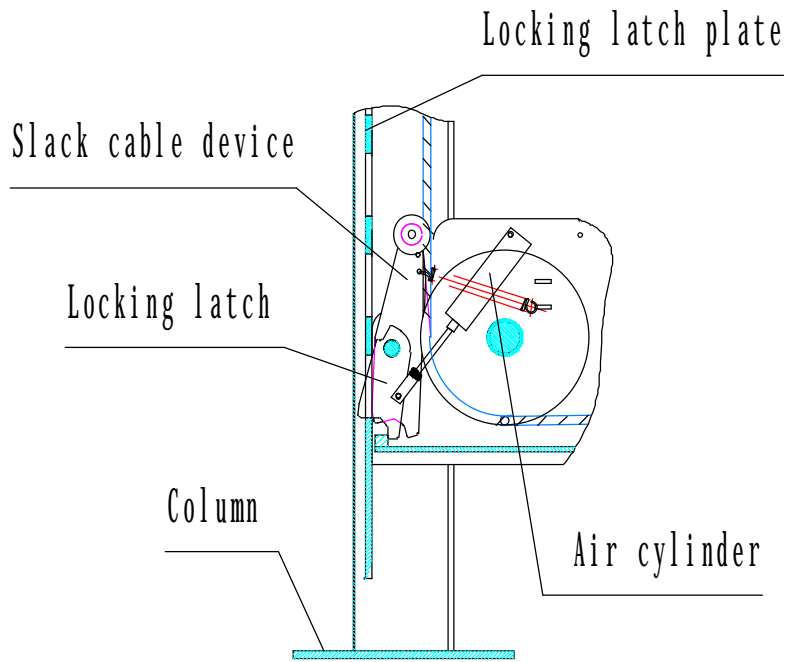

Fig.3
- I Cable slack or broken protection: During the raising and lowering the lift, the equal tension cables will press the slack cable roller to disengage the latches. If the cable is slack or breaks, the slack cable device will insert into the slot of locking latch plate to ensure the safety. (Fig. 3)